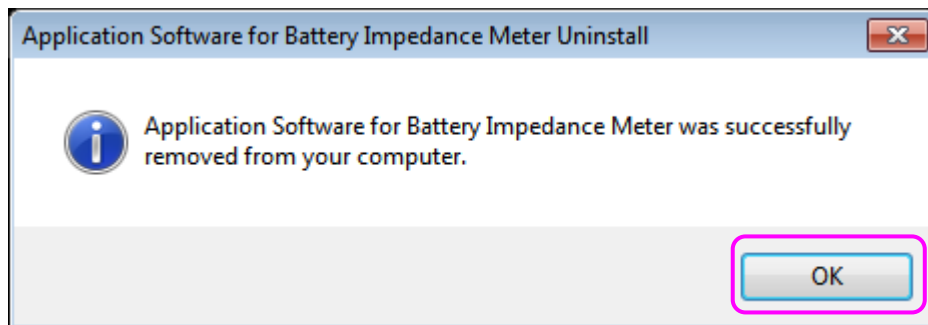

Fig 2-14
Step 2 : Click [OK] to finish the uninstall. (Fig 2-14)